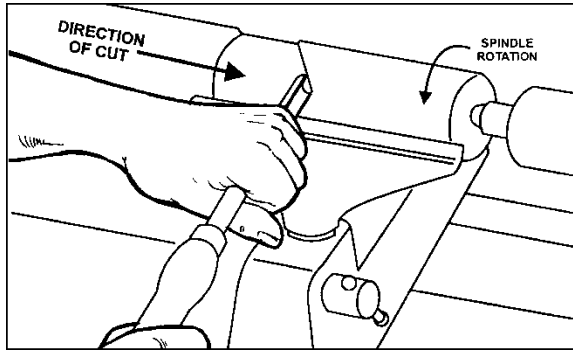

Figure 23
- Beginning about 2" from the tailstock end of the workpiece, roll the flute (hollowed-out portion) of the tool in the direction of the cut. See Figure 23. Make long sweeping cuts in a continuous motion to rough the piece down to a cylinder.